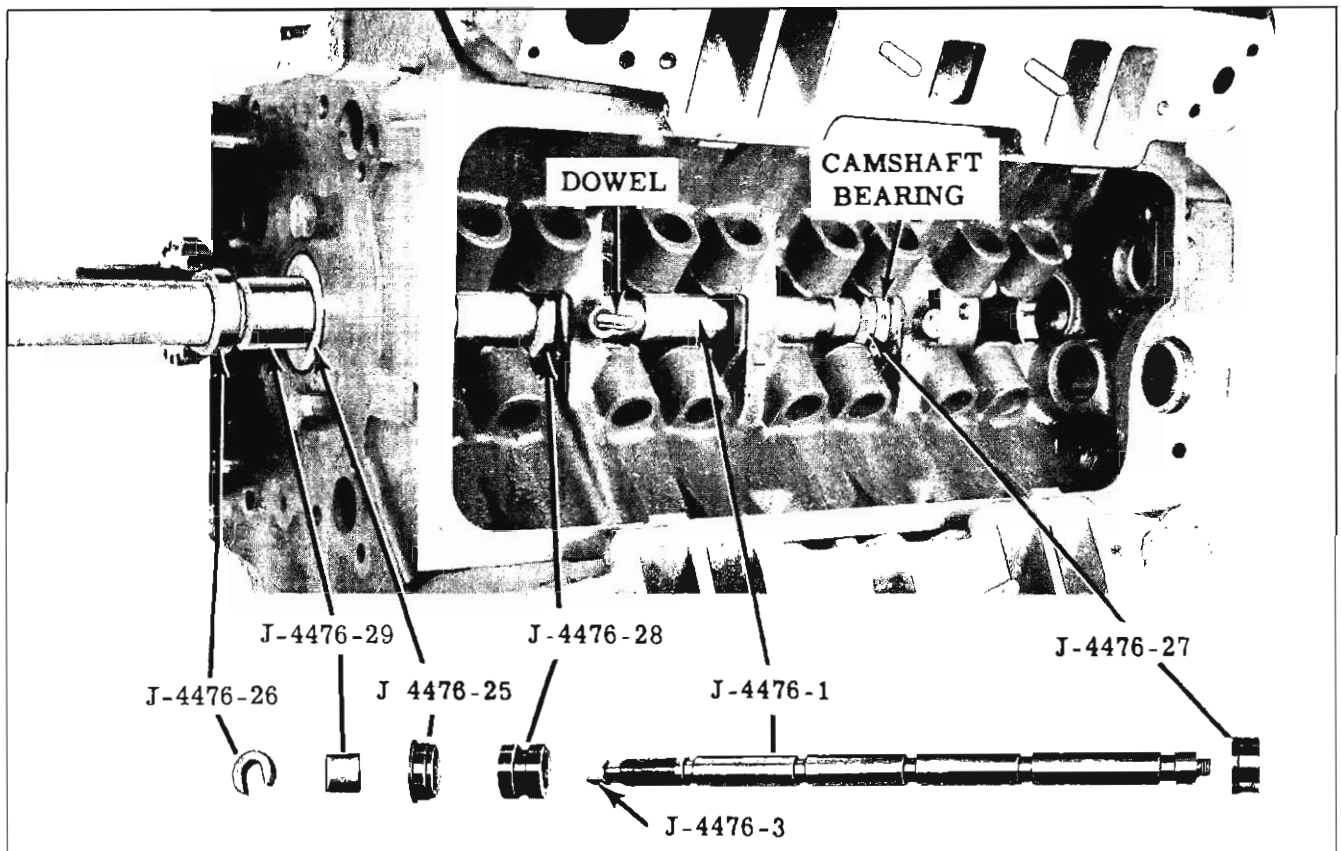

Fig. 3-43 Installing No. 4 Camshaft Bearing (Typical of 3 and 2)
- a. Assemble tools as shown in Fig. 3-43.